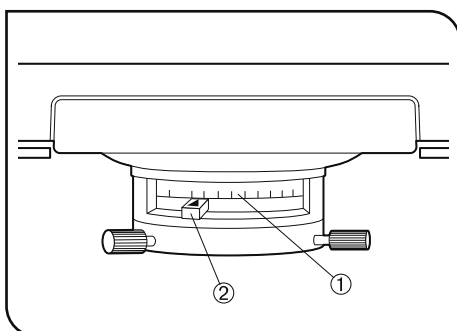

Fig. 23
2 Aperture Iris Diaphragm (Fig. 23)
Adjust the aperture iris lever ② to the aperture scale ① on the condenser. As the aperture iris lever is wide, align its center with the desired scale. (Fig. 23)